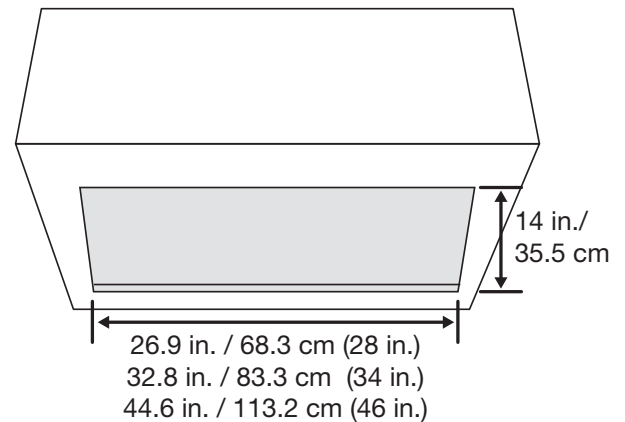

Figure 1
- Cut a hole in the bottom of the cabinet, using the dimensions shown on figure 1.